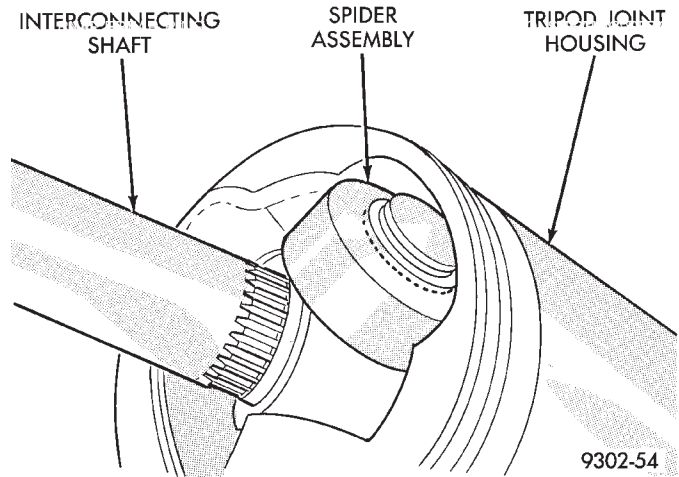

Fig. 24 Spider Assembly Joint Removal From Housing
(3) Slide the interconnecting shaft and spider assembly out of the tripod joint housing (Fig. 24).